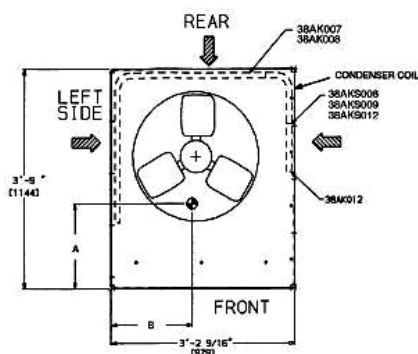

Fig. 1
- Allow sufficient space for airflow clearance, wiring, refrigerant piping, and unit servicing. See Fig. 1.
- Locate unit so that condenser airflow is unrestricted on all sides and above. Refer to Fig. 1.